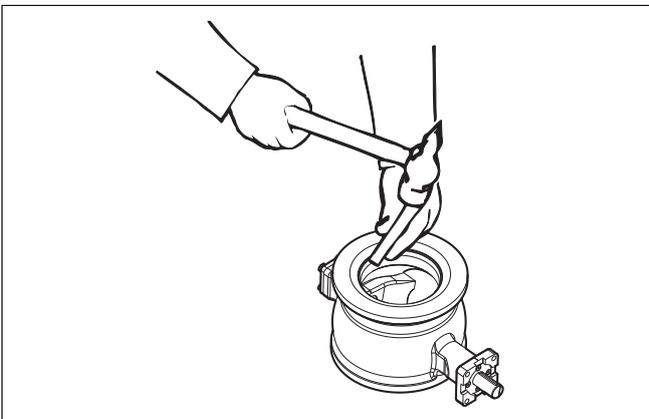

Fig. 22 Knocking off the seat
- Tap the seat (4) with a soft spindle all around the circumference from the upstream side to make it fall into the body, Fig. 22.